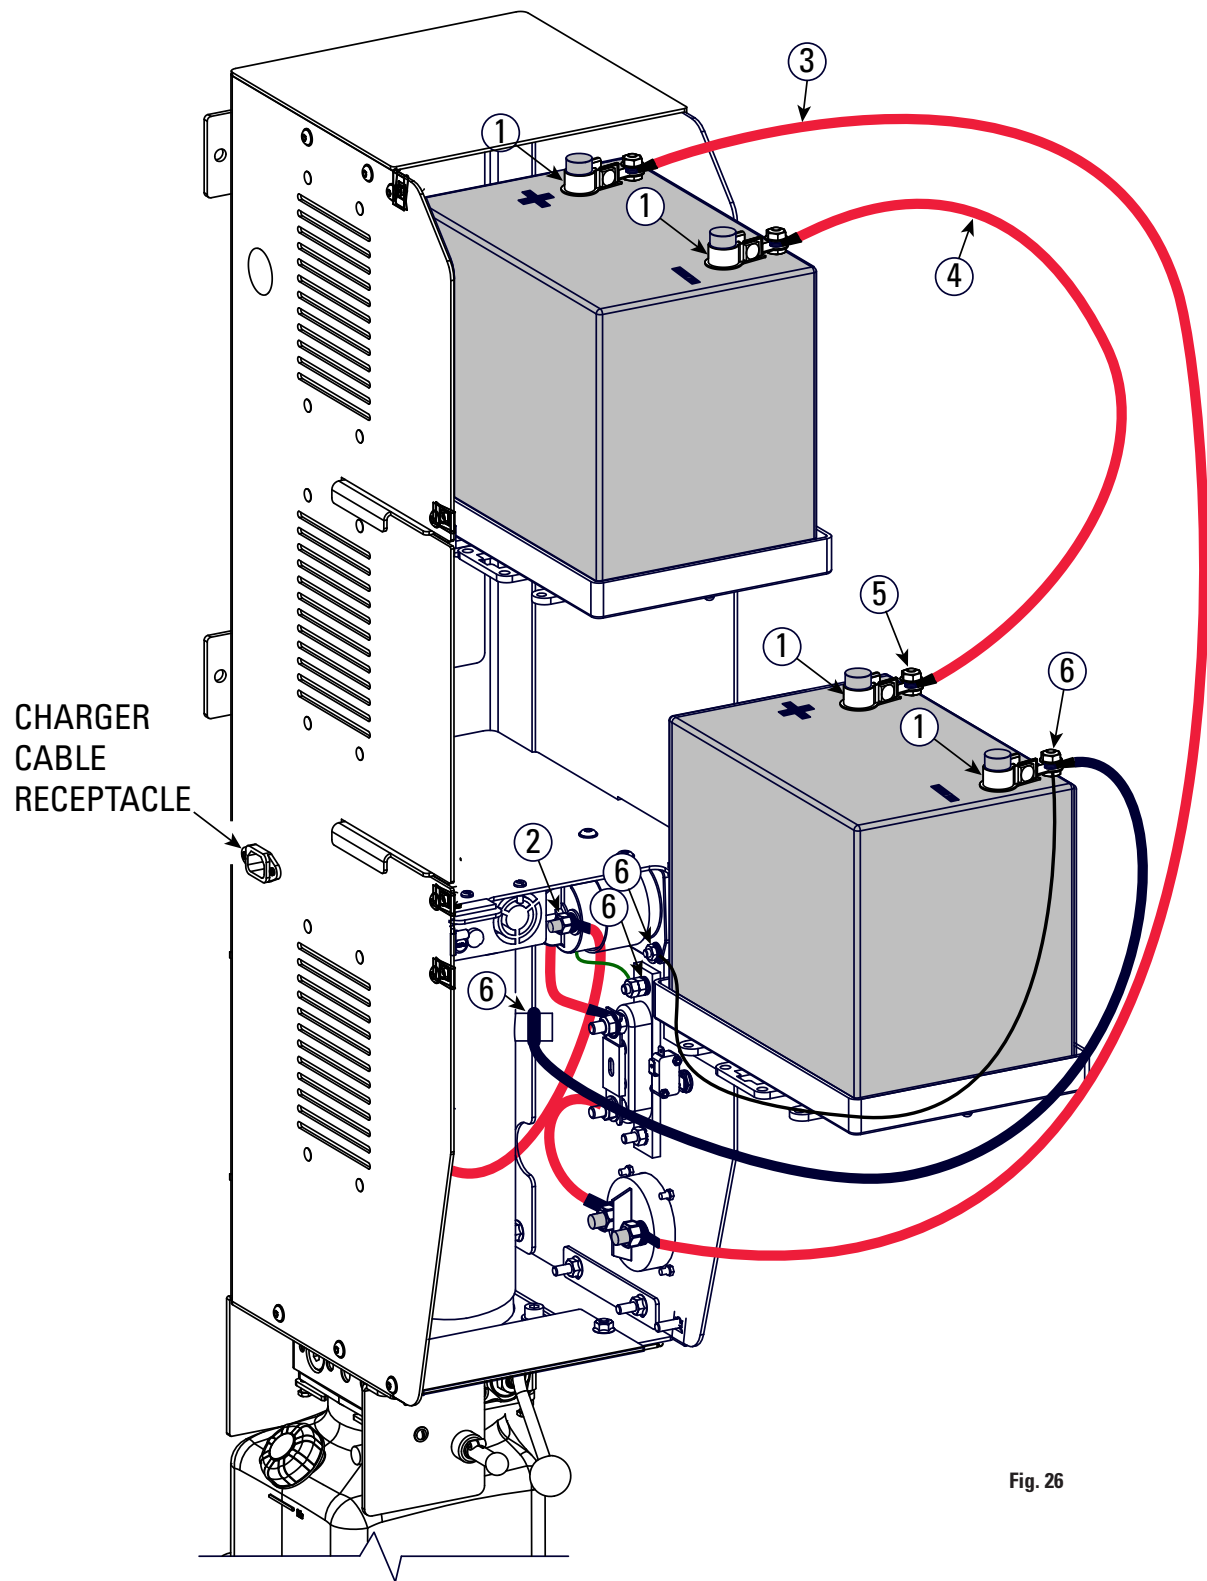

Fig. 26
19. **Group 24 Batteries:** (2) 12 volt group 24 car batteries are required to operate the lift and are not included. The batteries must be mounted inside the cabinet using the included battery trays, Fig. 26.
- A. First, make sure that the disconnect switch is in the "off" position. Refer to Fig. 26 and the wiring diagram on the inside of the top plastic cover while fastening the following cables and wires.
21. **Charger Cable:** Plug the male end of the 10 foot charger cable into the receptacle on the back of the DC control cabinet, Fig. 26. Plug the other end into a 120 volt 15 amp receptacle. Check to make sure the charger lights are on. If charger lights are not on, flip switch on back of charger.